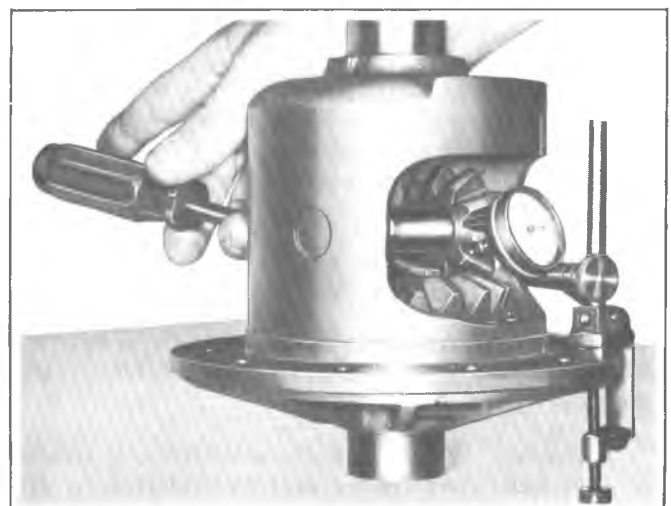

Fig. 10D-Measuring Pinion Gear Tooth Clearance
8. Install dial indicator in case so that contact button rests against pinion gear as shown in figure 10D.